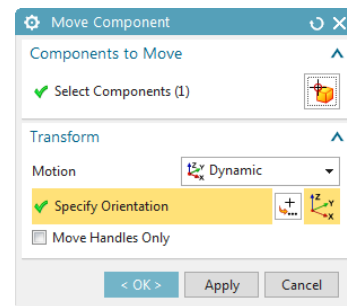

Figure 16-115 The *Move Component* dialog box
- Choose the **Reposition** button in the **Part** rollout; the **Move Component** dialog box is displayed, refer to Figure 16-115. You can place the lifter position using this dialog box.